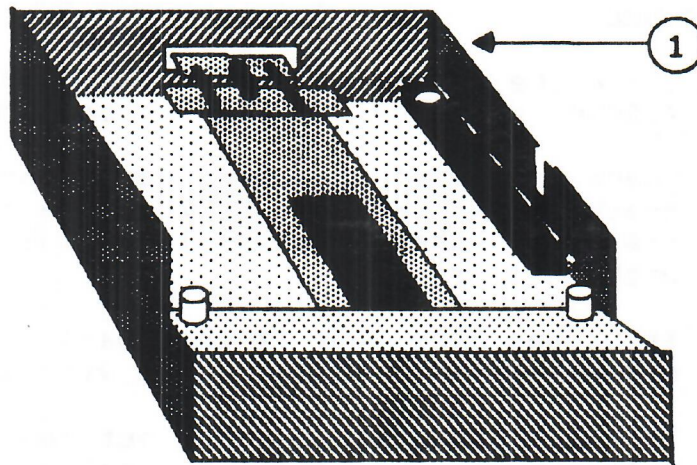

Figure 1
On some Duodisks with serial numbers before 325000, the analog board is too loose and may slip out of its guide track (the forward supports on the sides of the shield - see Figure 1, #1, next page). This brings the analog board into contact with the disk mechanical assembly and may short circuit the board when power is applied. Where this condition exists, the sides of the shield must be bent inward slightly to prevent the board from falling. This document contains the procedure.
4. Using needlenose pliers, bend the top of the shield inward about 1 mm., so that the guides hold the analog board firmly in place (see Figure 1, #1).
Duodisk (Figure 1)